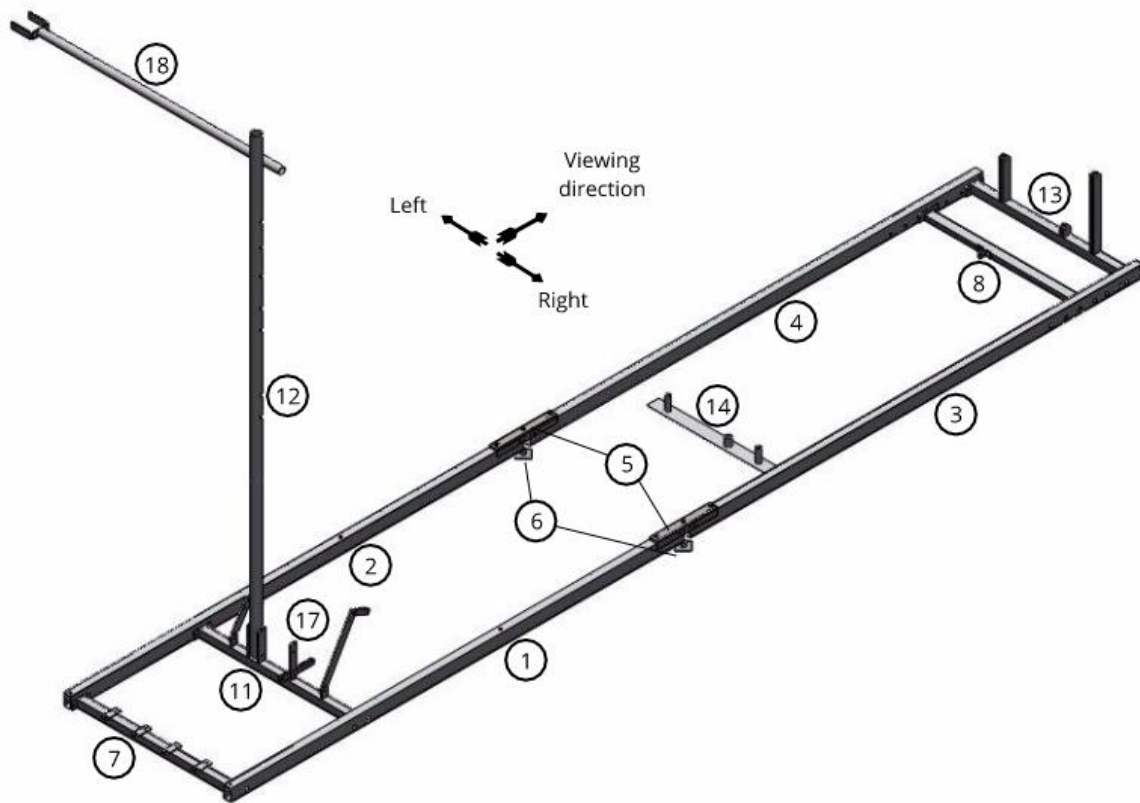

Figure 5 Assembled SPA-frame
The parts of the SPA-2 structure are marked at their mounting positions where relevant. For example, the label 3/13 indicates that the frame parts 3 and 13 are joined (see Figure 4 for an example). The part-numbers are indicated in Figure 5.
As the SPA-2 structure is asymmetric, some parts are also labelled L (left) and R (right). The left and right sides are indicated in Figure 5.
1. Lay out the base-profiles nr. 1...4 and the cross-profiles 7, 11 and 13 as shown in Figure 5. Consider the viewing direction and the position of the cross-arm supporting the USH-9!